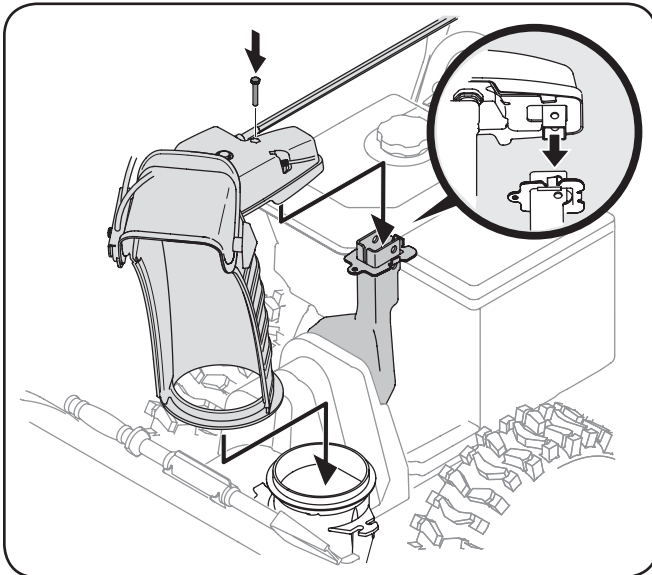

Figure 3-5
3. Place chute onto chute base and ensure hex rod is positioned under the handle panel. Install hex bolt previously removed, but do not secure with wing nut at this time. See Fig. 3-5.